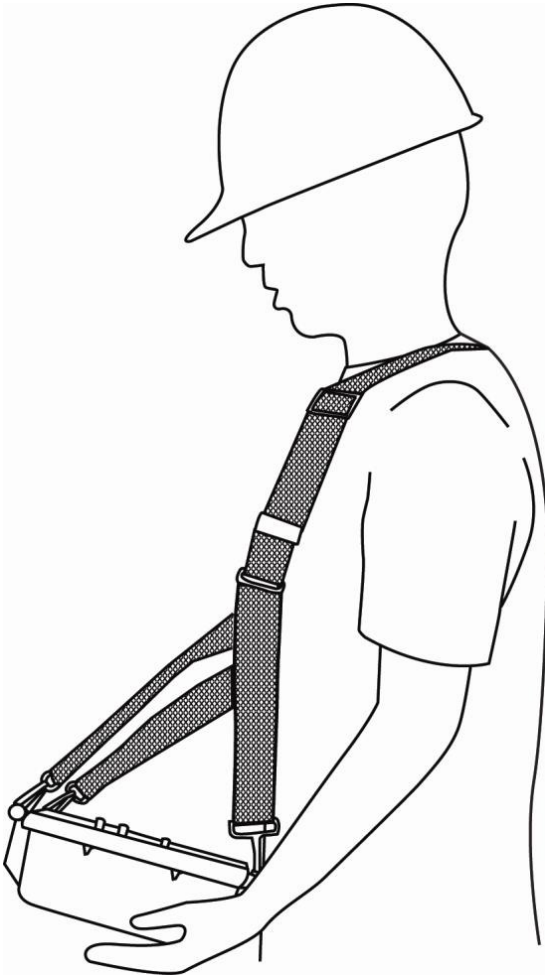

Figure 4: Rebarscope® Support Strap
4. Now adjust the strap accordingly so that the Rebarscope® is within easy reach and readable. (see Figure 4)